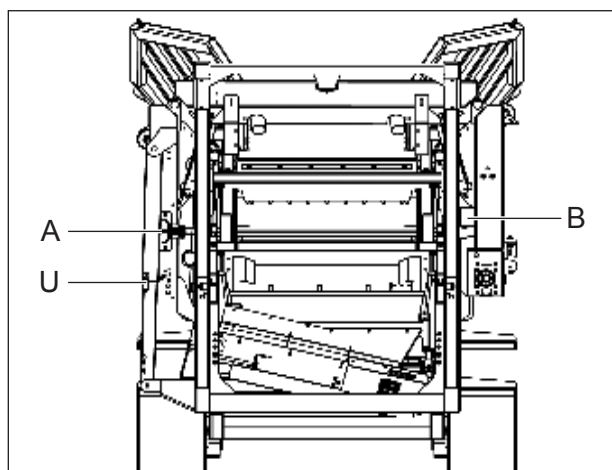

Figure 5.16 - Transport Pins
9. Insert transport pins (A and B) and R Clips (U), Ref: Figure 5.16.